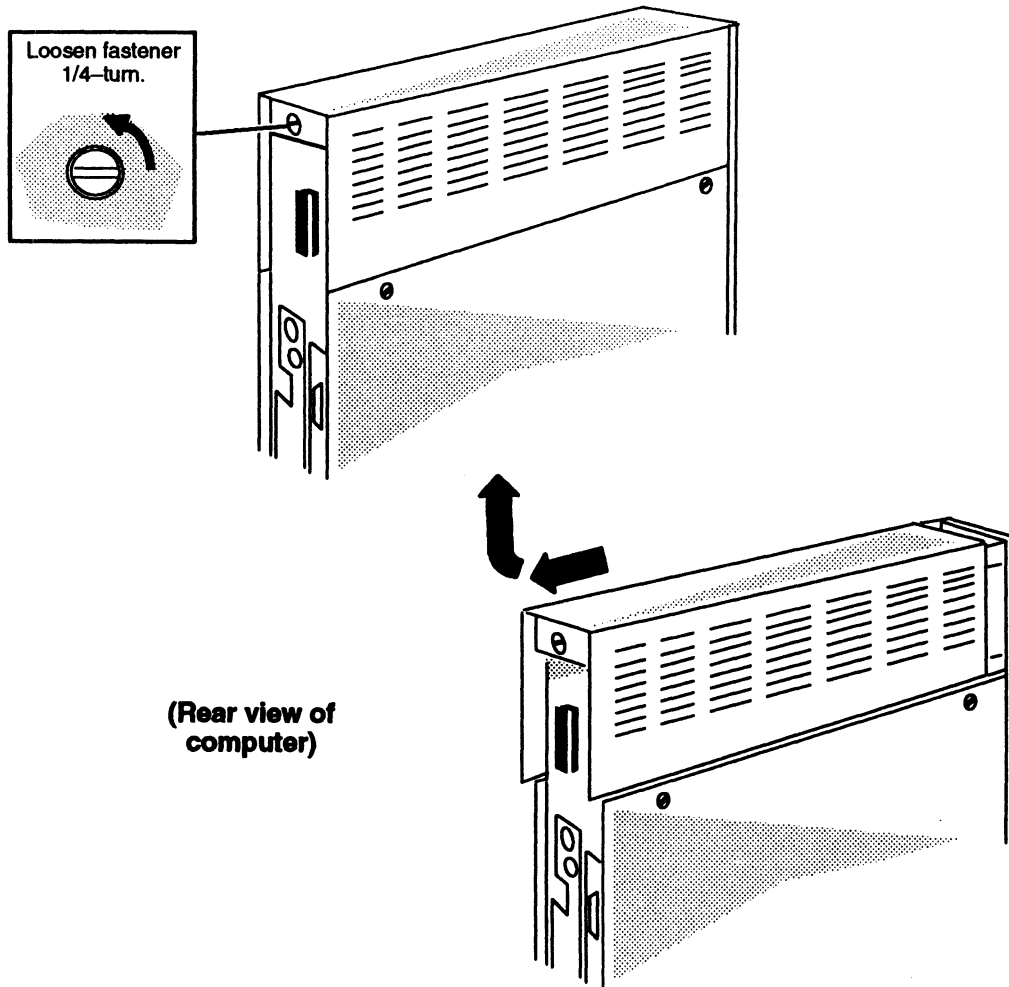

Figure 5-8 Removing the Top Cover
2. Using a coin or screwdriver, loosen the fastener by turning it one-quarter turn counterclockwise as shown in Figure 5-8.
3. Push the top cover toward the back of the computer unit and remove the cover as shown in Figure 5-8.